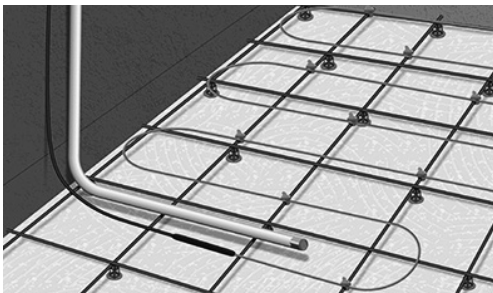

Fig. 6. Place the pipe/sensor between two cables
7. Install a conduit pipe for the floor sensor. Make sure the end of the conduit pipe is located at the same level as the heating cable and between two cable loops, approx. 50 cm from the wall. Seal the end of the conduit pipe (Fig. 6).